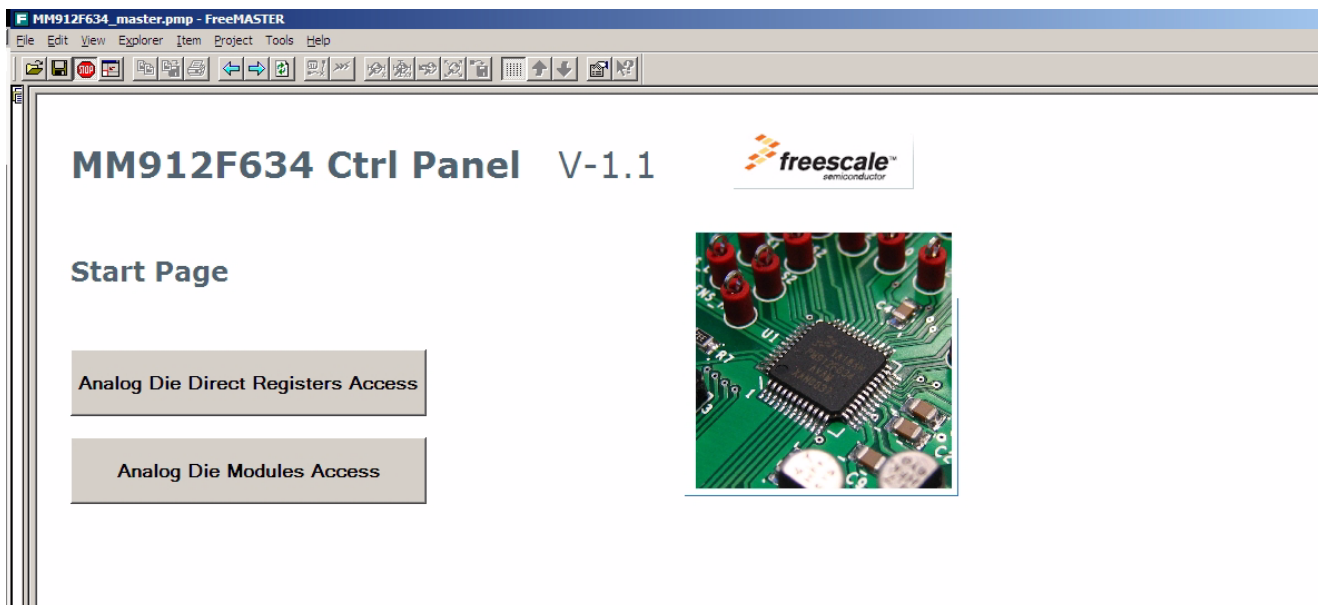

Figure 7. FreeMASTER Start Page
Figure 7 is a screen shot of the FreeMASTER PC application, as seen by the user after the opening of the **MM912F634_master.pmp** file. It is the start page, where the user can choose an approach to the analog die registers. The first possibility is “Die Direct Register Access”, and the second is “Analog Die Modules Access”. Both control pages will be described in the following paragraphs.
- If the start control page does not look the same as depicted in the Figure 7, but the following information appears on the screen, then there is a problem with the location of the source files.